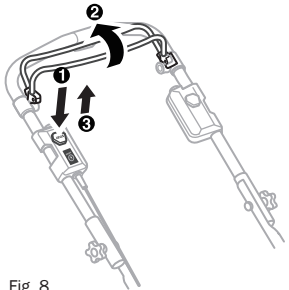

Fig. 8
2. Press the start button (Fig.8, step 1).
3. With the start button depressed, grasp the brake control bar (Fig.8, step 2).
4. Release the start button to start your mower (Fig.8, step 3).